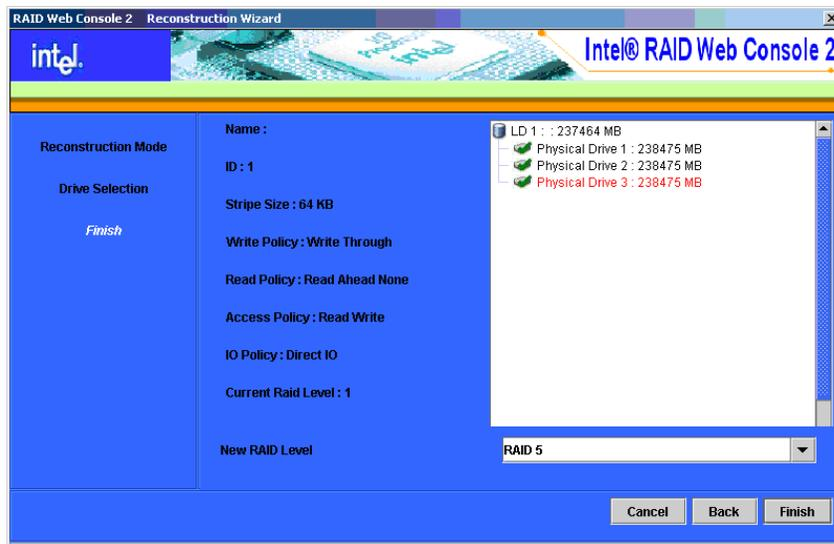

Figure 62. Changing RAID Level
5. When you are finished adding disk drives, click **Next**. The screen on which you can change the RAID level is displayed, as shown in Figure 62.